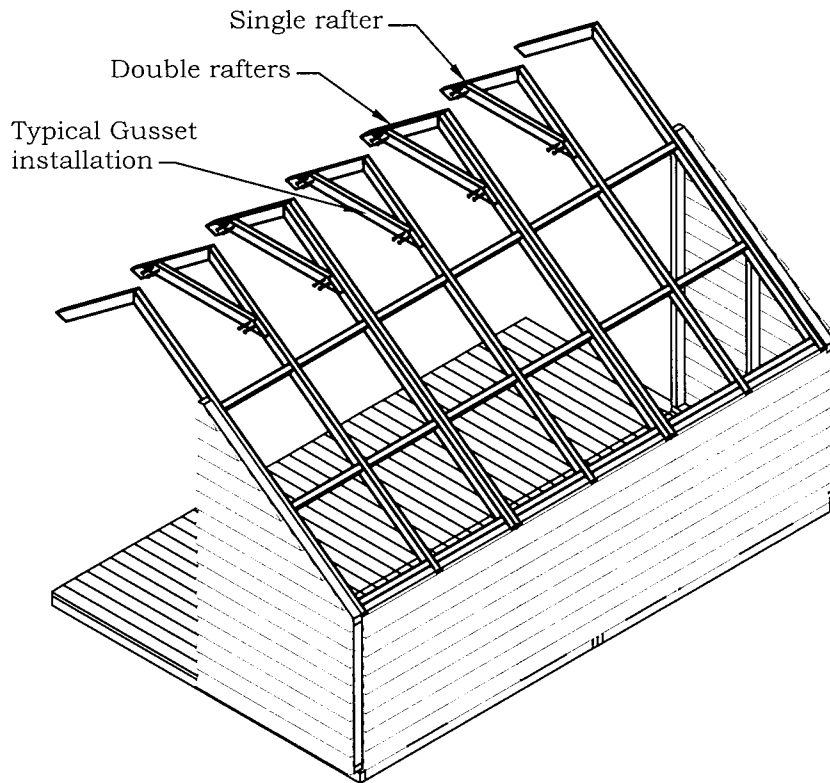

FIGURE B3
- There are 5 gussets supplied with the 8x12 and 12x12 models and 2 with the 8x8 model. The gusset is angle cut and when correctly positioned, it will be flush with the upper edge of the roof rafter. Start the screws into the gusset. Have your assistant push up on the center rafters to remove any sag. When the roof rafters and gusset line up, fasten the screws tightly (Figure B3). Now secure the entire roof with 3" screws about every 12 to 18 inches.